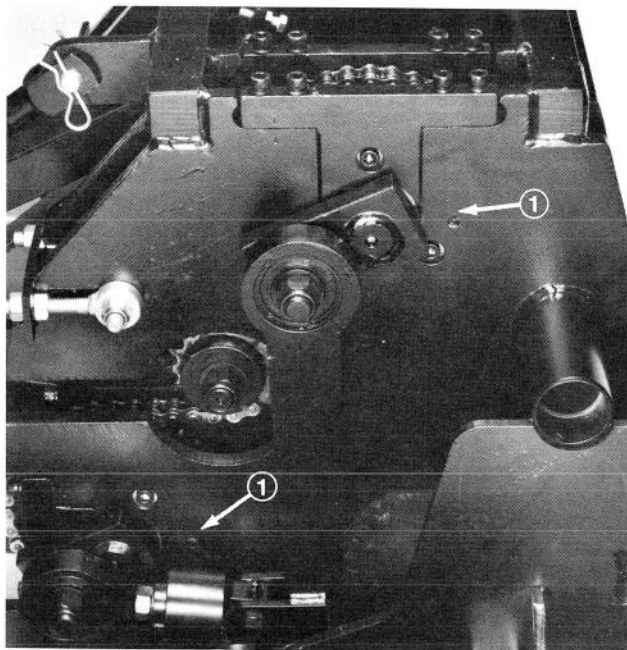

Figure 46
1. Locate the four (4) timing holes, two (2) on each side of coring head and on crank sprockets (Fig. 46).